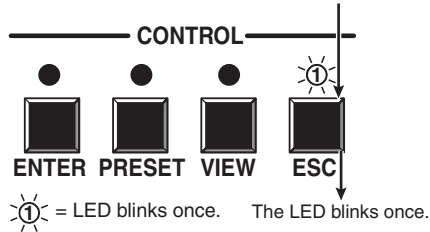

Figure 3-15 — Clear all selections
1. Press and release the Esc button (figure 3-15).